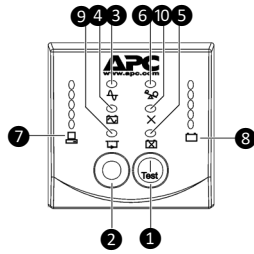

Figure 4
**UPS Front Panel (Figure 4):**